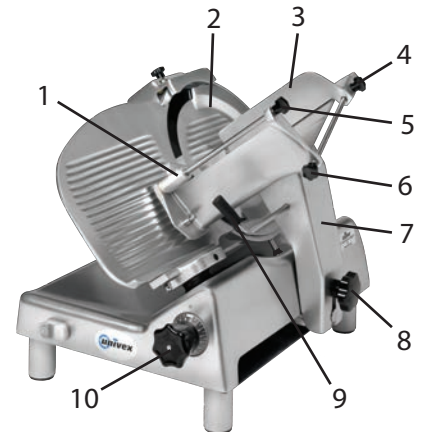
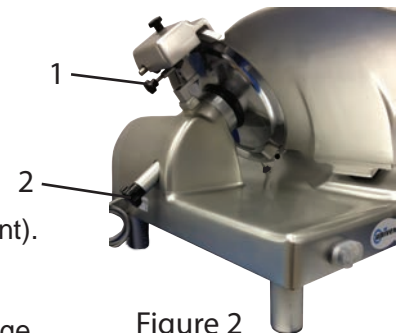

Figure 1
Figure 2
**Warning:** The protective guard (Overview [5]) covers the knife edge completely except at the forward edge where slicing will be performed. This forward edge is covered by the edge of the fence, but only when the slice adjustment is completely closed. The knife guard (Overview [6]) can be removed for cleaning by unscrewing the knife guard knob (refer to p.6 Figure 2 [2]). For safety, keep the knife guard on at all times except when cleaning. Never operate the slicer with the knife guard removed
1. Turn slice adjustment knob (Figure 1 [10]) to the fully closed position (beyond "0") so that the knife edge is not exposed.
2. Remove the following items to disassemble the slicer (Figure 1 & 2):
a. Last Slice Device Shaft: Unscrew knob and shaft (Figure 1 [5]) counter-clockwise from carriage and through Last Slice Device (Figure 1 [1]) to remove and set aside.
b. Adjustment Spacer Shaft: First loosen Adjustment Spacer Knob (Figure 1 [4]). Now unscrew the Adjustment Spacer Shaft (Figure 1 [6]) counter-clockwise to remove and set aside. Adjustment Spacer (Figure 1 [3]) can now be removed and set aside.
c. Carriage Arm Handle: Loosen and remove the black handle (Figure 1 [9]) and set aside.
d. Carriage Arm: Loosen the Carriage Arm Knob (Figure 1 [8]) and set aside for cleaning. Pull straight upwards on the Carriage and Arm (Figure 1 [7]) and set the Carriage Assembly aside.
e. Slice Adjustment Knob: Remove screw located on front of Slice Adjustment Knob (Figure 1 [10]) and set aside. Pull knob forward to remove and set aside (Note the shaft is keyed to ensure correct alignment).
f. Sharpener Assembly: Unscrew sharpener locking pin (Figure 2 [1]) and remove sharpener by pulling upwards. Use caution around blade edge.
g. Blade Guard: Loosen the Blade Guard Knob and shaft (Figure 2 [2]) and remove. Set aside for cleaning. Use the handle on the Blade Guard (Figure 1 [2]) and remove. Be careful when working around the blade edge.
- 3 Adjust the Thickness Control Dial (Figure 1 [12]) to beyond "0". This will ensure that the blade edge is not exposed to the operator.